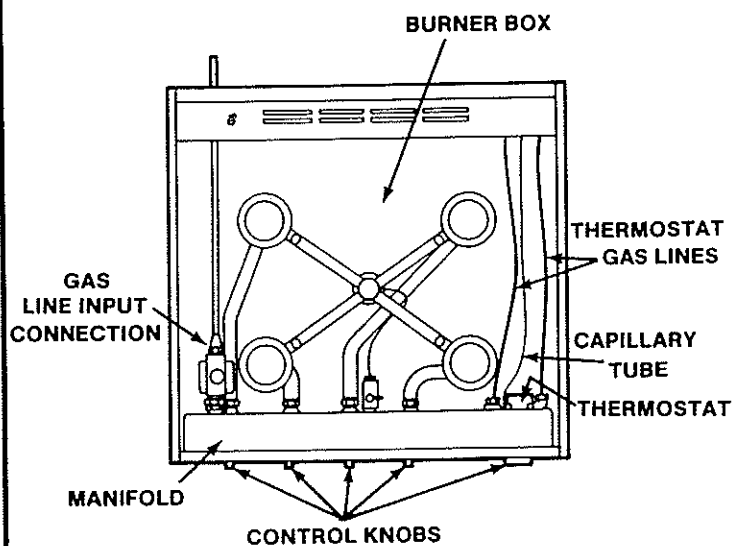

Figure 11
- disconnect gas supply line input connection to manifold, (Figure 11).